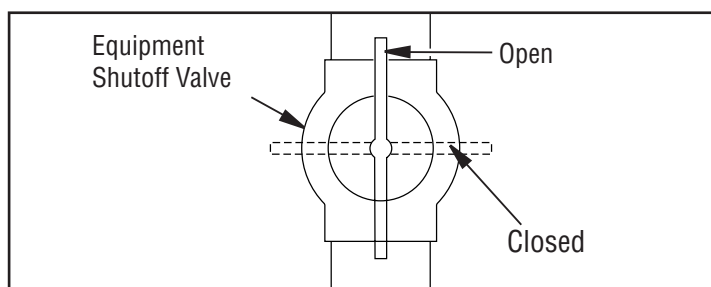

Figure 30 - Equipment Shutoff Valve
1. Close equipment shutoff valve (see Figure 30).
1. Open equipment shutoff valve (see Figure 30).